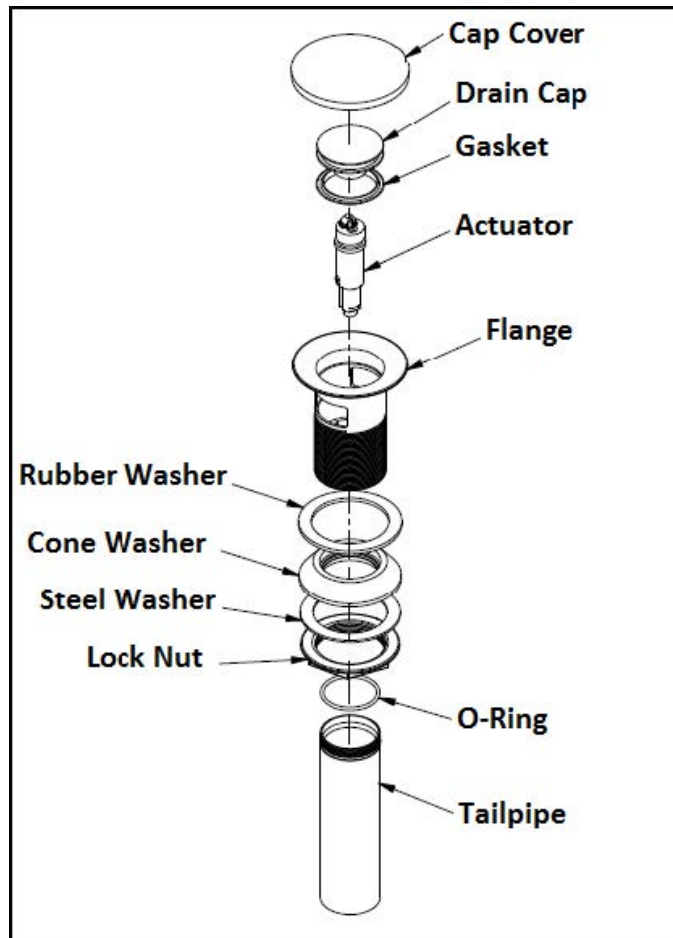

Figure 3
3. Drain assembly not included with I203-1. Remove FLANGE, RUBBER WASHER, STEEL WASHER, and discard drain CAP COVER from drain assembly. Place RUBBER WASHER into FLANGE. Then, place FLANGE through the sink hole (Clear silicone may be used in place of RUBBER WASHER). From underside of sink, install CONE WASHER, STEEL WASHER, and LOCK NUT into FLANGE. Thread LOCK NUT firmly. Thread TAILPIPE to FLANGE assembly and assemble TAILPIPE to existing P-Trap. **See Figure 3.**